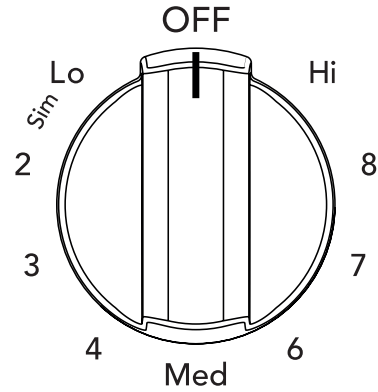

Figure 7: Surface control knob
2. Push in and turn the surface control knob in either direction (Figure 7) to the desired setting (refer to the “Suggested radiant surface element settings” in Table 1).